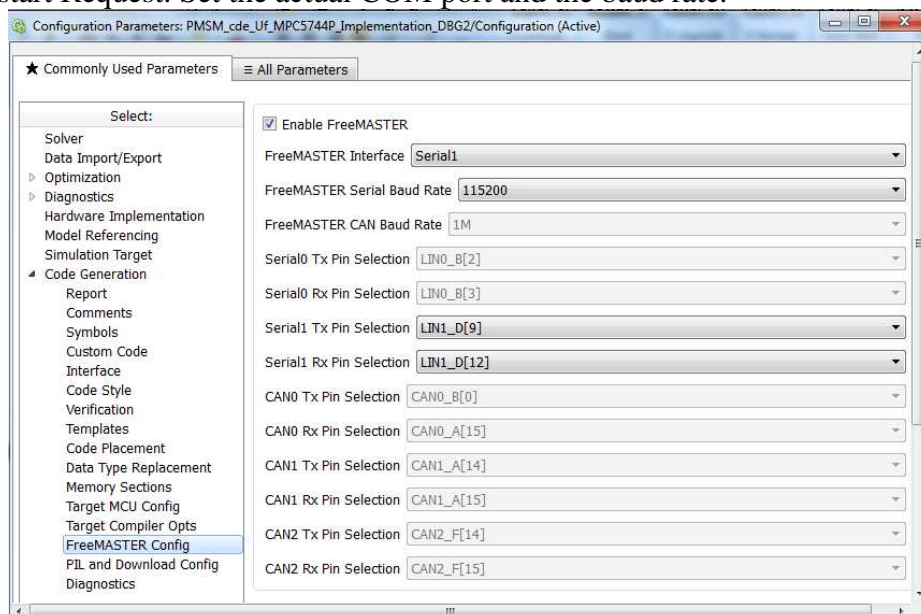

Figure 37 - Configuration of Freemaster
- Freemaster Config: enable Freemaster drivers, configure the communication port, its baud rate and the used Tx/Rx pads. Figure 37 shows configuration to activate Freemaster through LINFlexD on the MPC5744P_DEVKIT. No other blocks are required to use Freemaster, except Freemaster Recorder.